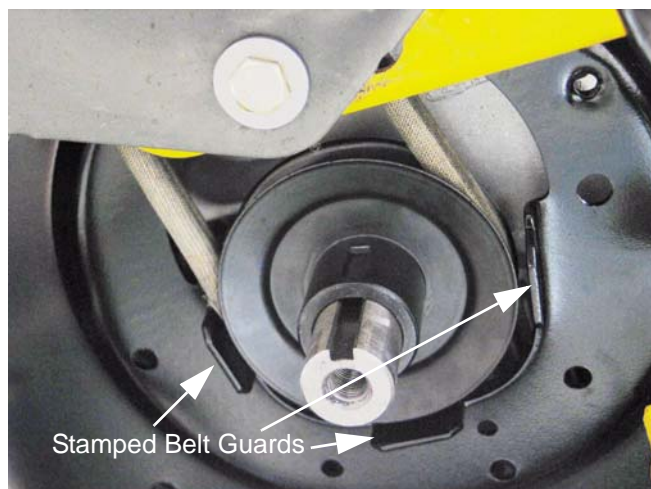

Figure 23.8
- 23.8. Slip the crankshaft pulley down far enough to get the belt off of the pulley, and remove the belt from the crankshaft. See Figure 23.8.